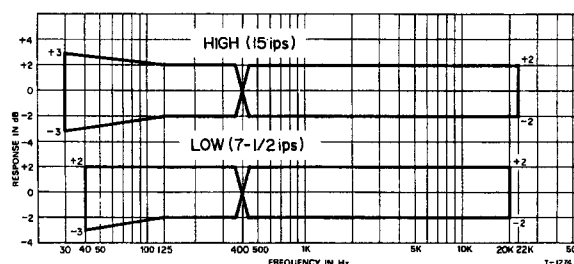

Fig. 8-6 Frequency Response —Playback—
18. Play the Test Tape and compare the readings on the VTVM with the response limits given in Fig. 8-6.